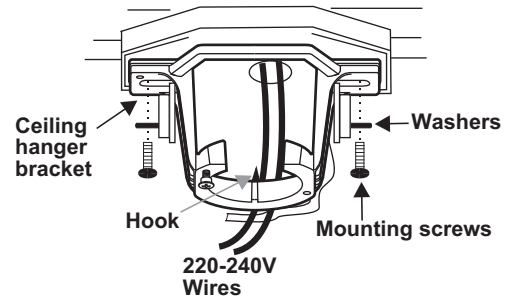

Figure 2
3. Secure the hanger bracket to the ceiling. (Fig. 2)